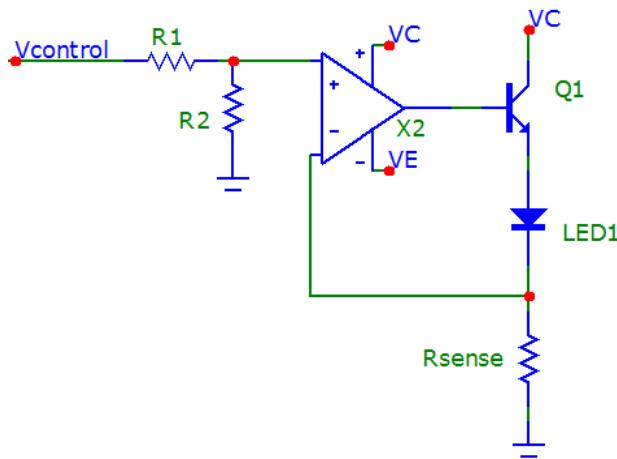

Figure 2. LED driver circuit.
Figure 2 shows a particular implementation of the LED driver with a 2N3904 NPN BJT (Q1) used in an emitter-follower configuration. The operation of the circuit is straight forward. The positive terminal of the op-amp is connected to the control voltage, while the negative terminal is connected to the feedback resistor. When a positive voltage is applied to the positive input terminal, the op-amp will output a voltage to turn on the transistor. The emitter current of the transistor will flow through the LED and the feedback resistor, R_{sense} . The feedback loop is designed so that the voltage drop across the feedback resistor is linearly proportional to the control voltage. The resistive voltage divider formed by R_1 and R_2 is for reducing the 5V-peak control voltage to a level such that the peak current flowing through the sense resistor R_{sense} will be 40 mA. Thus, the LED current varies linearly with the control voltage. The transistor can source the current levels required to drive the LED.
1. **LED Driver Design:** Design the LED driver based on the circuit shown in figure 2. Assume the input signal is a 5V square wave with a 50% duty cycle at 20 kHz. Choose R_{sense} , R_1 and R_2 to ensure a 40 mA peak current across the LED.